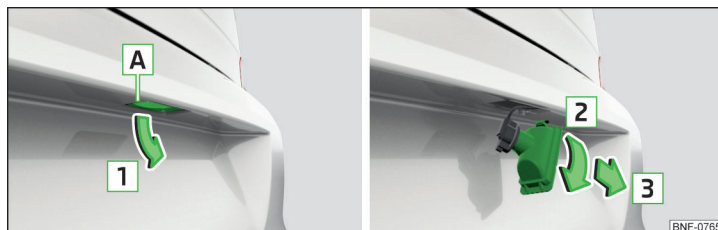

Fig. 147 Remove licence plate light
- Insert a slotted screwdriver into the slot in area **A** » Fig. 147 and free up the lamp in the direction of arrow **1**.